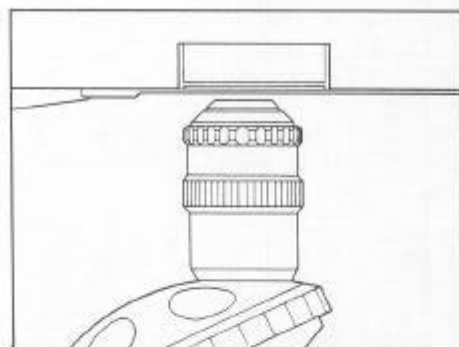

Fig. 20
- ★ If you rotate the nosepiece or move the cross-movement stage after focusing on the specimen in a vessel, the lower surface of which is positioned more than 1 mm above the stage surface, the front lens of the objective may sometimes hit against the insert plate from underneath. (Fig. 20) Therefore, it is necessary to ascertain its safety before rotating the nosepiece. If there is any possibility to impinge, it is safe to lower and then rotate the nosepiece.